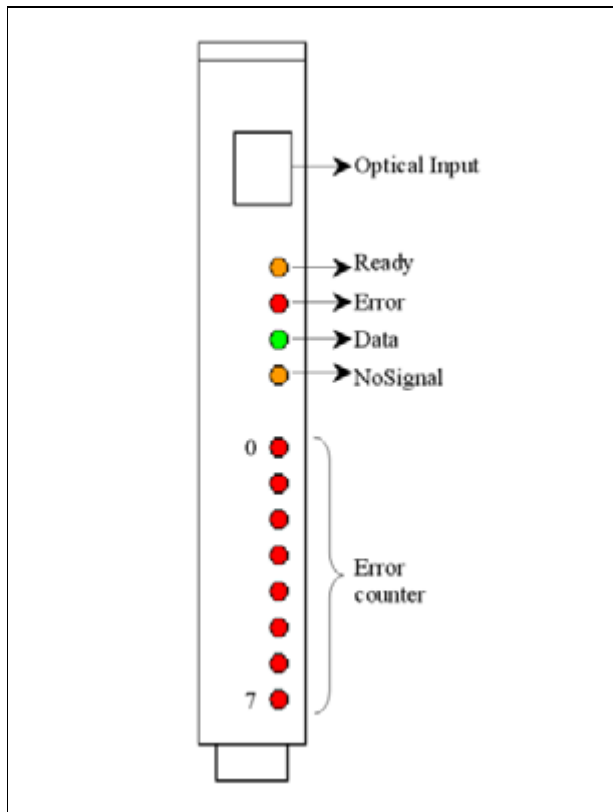

Fig. 66: F-REC (D23) in IRS acquisition PC
At the F-REC (D23 in acquisition PC) you will find 8 red LED's labeled ERR0 through ERR7. (Fig. 66 / p. 94)
- Check the **No Signal** LED at the F-REC in the IRS (red LED) \(Fig. 66 / p. 94\)
- ⇒ If the NoSignal LED (Fig. 66 / p. 94) switches off when connecting, RCOM's DOM output is OK.
- Check the NoSignal LED at the F-REC in the IRS (Fig. 66 / p. 94)
- ⇒ If the NoSignal LED at the F_REC (Fig. 66 / p. 94) switches off, then RCOM's ACQ output is OK.